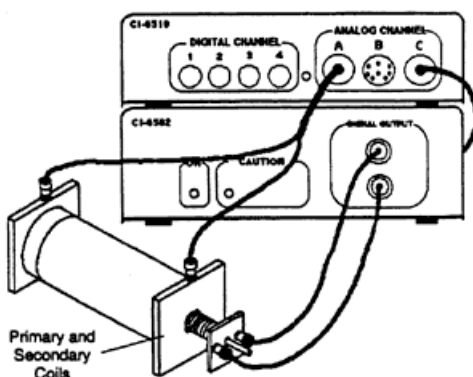

Figure 1: Equipment Layout
A transformer increases or decreases AC voltages. An AC voltage is applied to the primary coil, which is surrounded by the secondary coil but is not electrically connected to it (See Figure 1). The primary coil produces a changing magnetic flux through the secondary coil, which will induce an AC voltage in the secondary coil. If the number of turns of wire in the secondary coil is more than the number of turns in the primary coil, the voltage induced in the secondary coil will be more than the applied voltage in the primary coil and this is called a step-up transformer. If the number of turns in the secondary coil is less than the number of turns in the primary coil the voltage will be reduced and this is called a
3. Connect the inner coil to the Power Amplifier output using banana patch cords. See Figure 1.